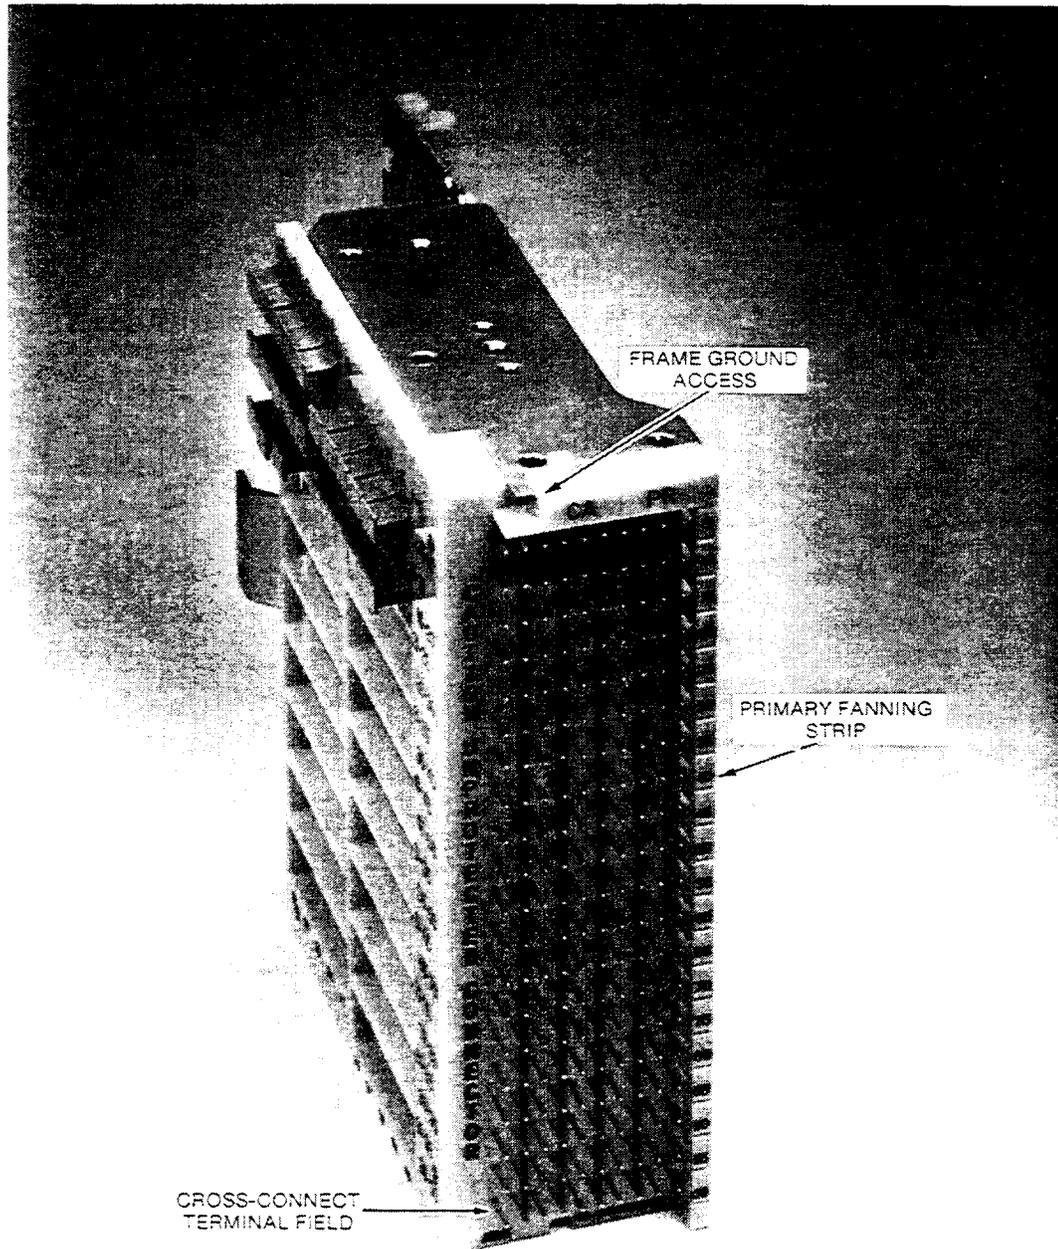
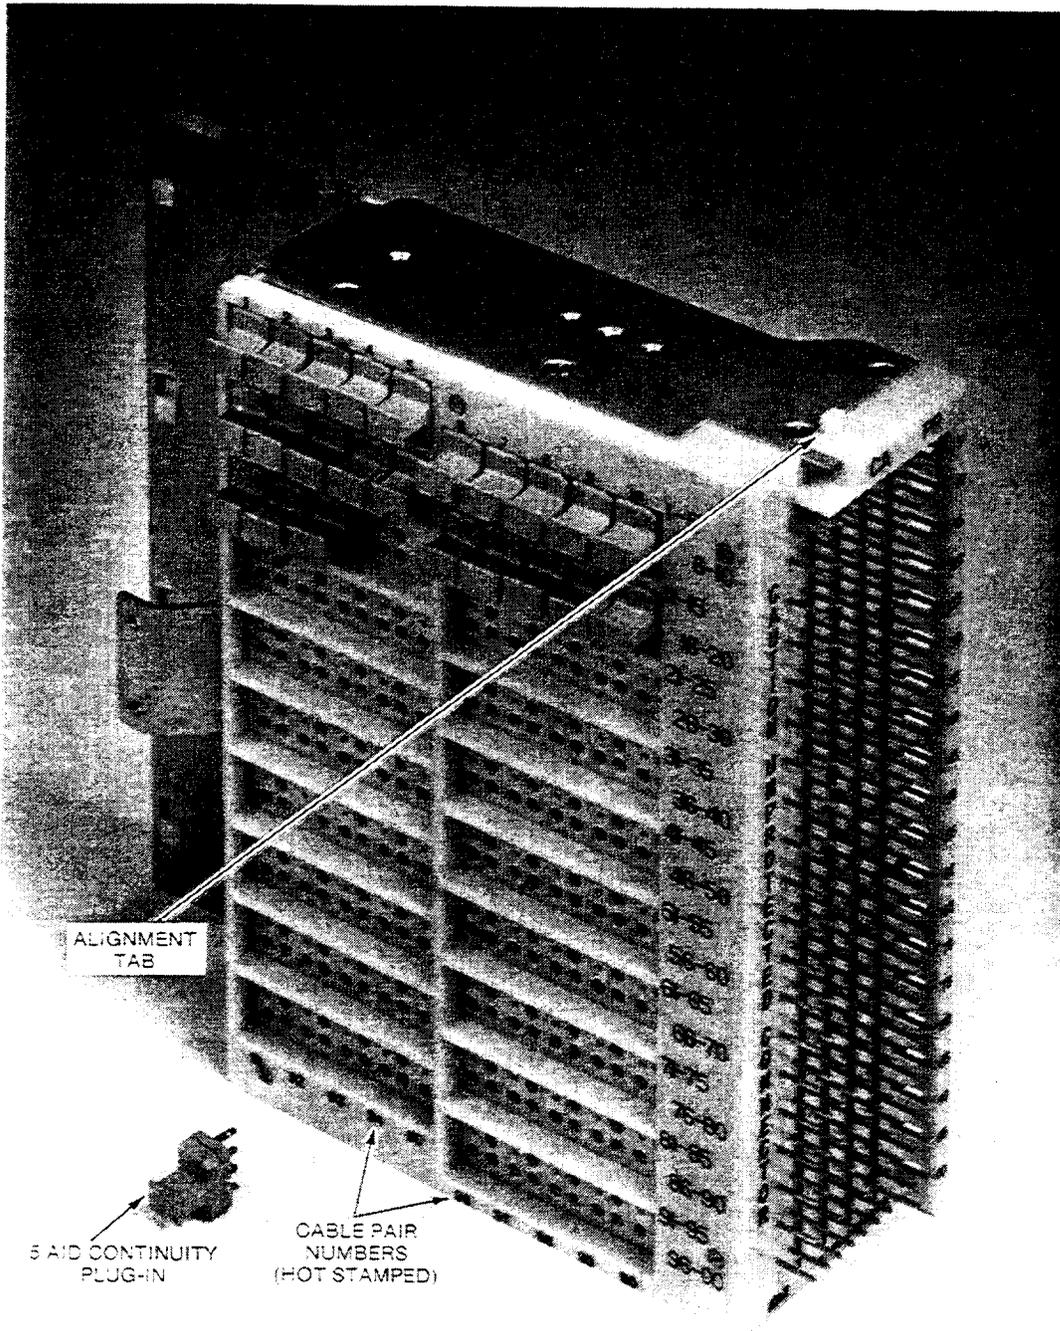

Figure 4. 410-Type Connector — Front View
Figure 5. 410-Type Connector — Left Side View
arrangement. The 410M-type connector mounting bracket is at a 12.5-degree angle to provide improved visual and physical access to the plug-in field while maintaining front access to the cross-connect field. Figure 3 shows the 410-type and 410M-type connectors. Figure 4 shows the 410-type connector front view. Figure 5 shows 410M-type connector left side view.
2.04 A front-facing cross-connect field (toward the work aisle) and snap-through fanning strips simplify cross-connects and facilitate running jumper wires. A single wire-wrap cross-connect field is offered that has bridging or back-tapping capability and is compatible with the 89-type high density central office connecting blocks. (See Figures 4 and 5.)